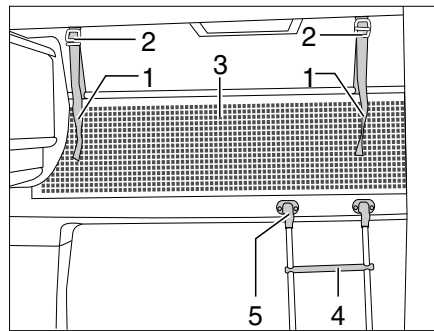

Fig. 155 Overcab bed
Always use the access ladder (Fig. 155,4) provided as standard to access the overcab bed.
- Attach the ladder with the rails to the holder (Fig. 155,5) on the alcove panel.
The safety net (Fig. 155,3) is stored as standard between the mattress and slatted frame. Only use the safety net if persons are already in the alcove.
- Fasten the retaining straps (Fig. 155,1) to the holders on the ceiling (Fig. 155,2).
Setting up: ■ Fasten the retaining straps (Fig. 155,1) to the holders on the ceiling (Fig. 155,2).